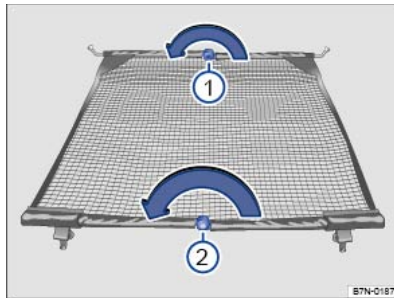

Fig. 185 Folding in the net partition.
- Press the release button ⇒ *Fig. 185* ①. With the release button pressed down, fold in the rod in the direction of the arrow.
- Press the release button ⇒ *Fig. 185* ②. With the release button pressed down, fold in the rod in the direction of the arrow.